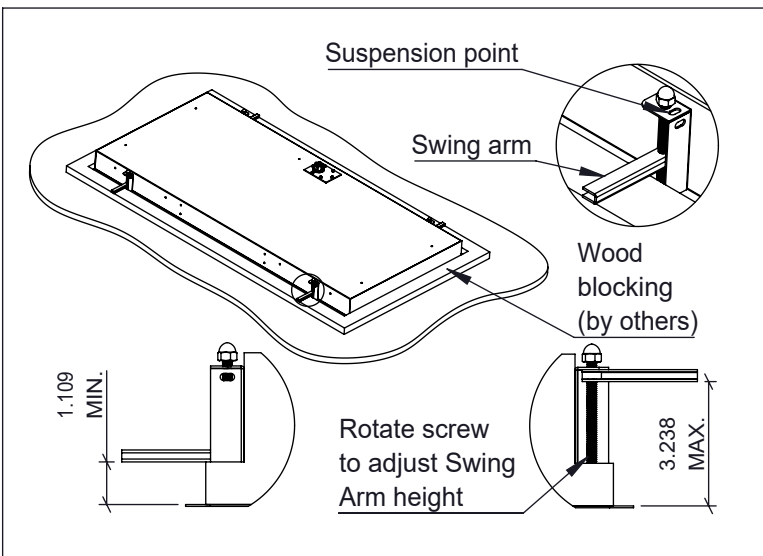

Figure 3
3. Adjust swing arms to the proper height (Fig. 3).